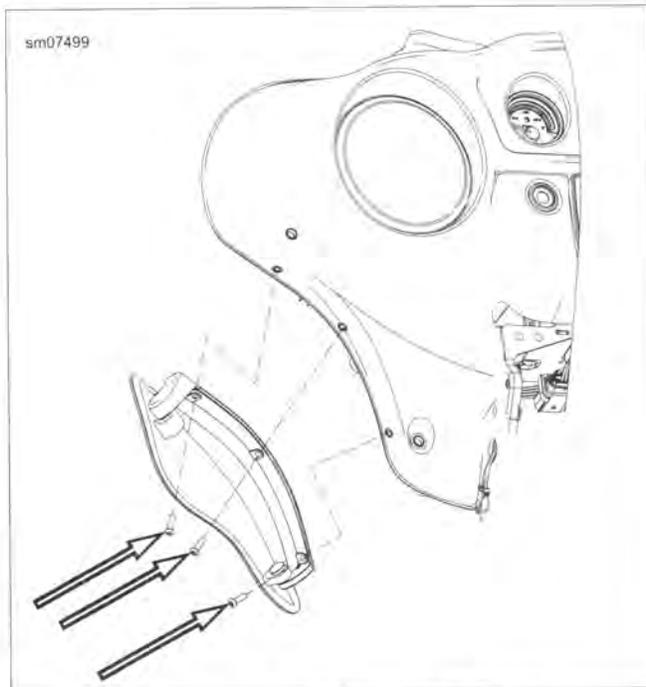

Figure 2-149. Air Deflector (Adjustable)
1. See Figure 2-149. Remove three screws to release air deflector at side of inner fairing.